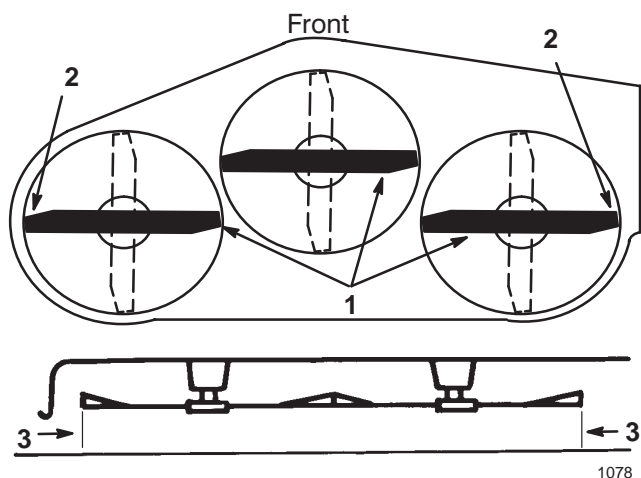

Figure 39
4. Carefully rotate the blade(s) from side to side (Fig. 39). Measure between the outside cutting edges and the flat surface (Fig. 39). If both measurements are not within 3/16 inch (4.75 mm), an adjustment is required; refer to steps 5 and 6.